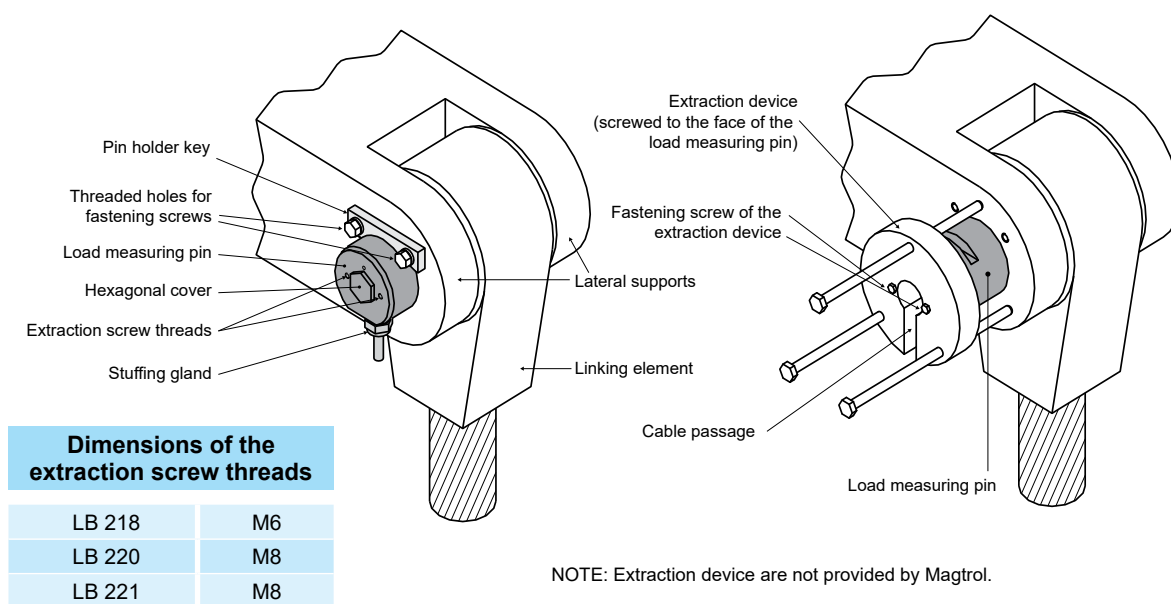
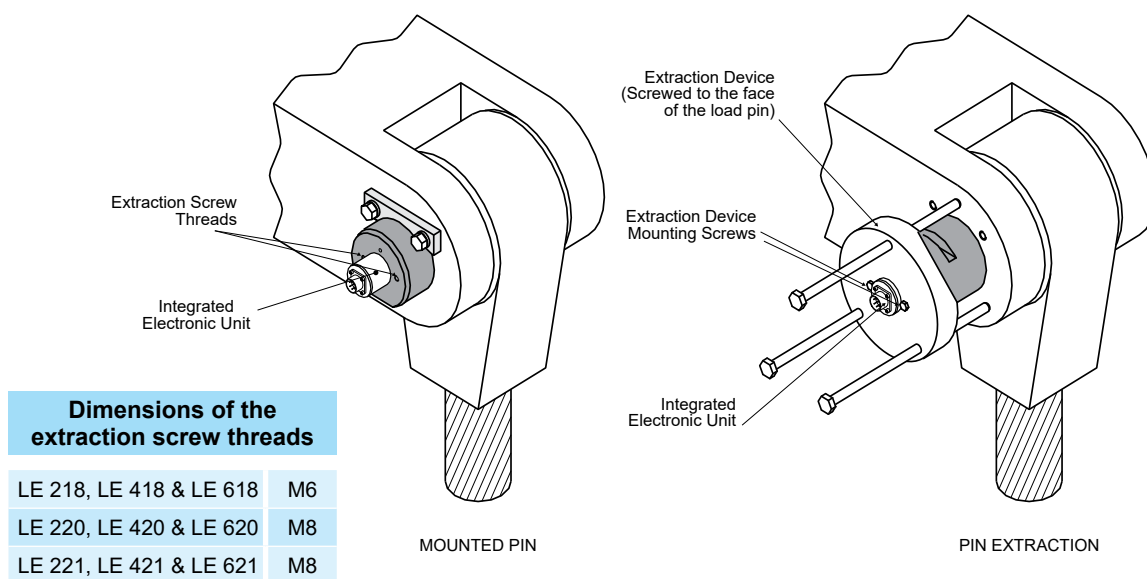

Fig.2-5 Pulling out a LB Series Load Measuring Pin by means of an extraction device
Fig.2-6 Pulling out a load measuring pin by means of an extraction device (principle used with LE 218, LE 418 & 618, LE 221, LE 421 & 621 Series Load Pins)
The extraction tools shown in illustrations on the following page (*see Fig.2-5 & Fig.2-6*) are not part of Magtrol's product range and are not supplied with our products. These illustrations explain the method that Magtrol recommends using, but in practice, the implementation of the extraction (method, tools, etc.) is the responsibility of the customer.
9. Load measuring pins LB/LE 218 - 221, LE 418 - 421 & LE 618 - 621 are fitted with two extraction screw threads at each end (see Fig.2-5 & Fig.2-6) which should be used to fix the extraction device.
Use this thread to fix an extraction device (not provided by MAGTROL, see Fig.2-5). We recommend fixing it on the same side as the stuffing gland (LB 210, LE 400 and LE 600 series load pins with integrated cable) or the electric connector (LE 200, LE 400 and LE 600 series load pin with connector) to avoid their damage if the pin is pulled out on the opposite end (see Fig.2-5).